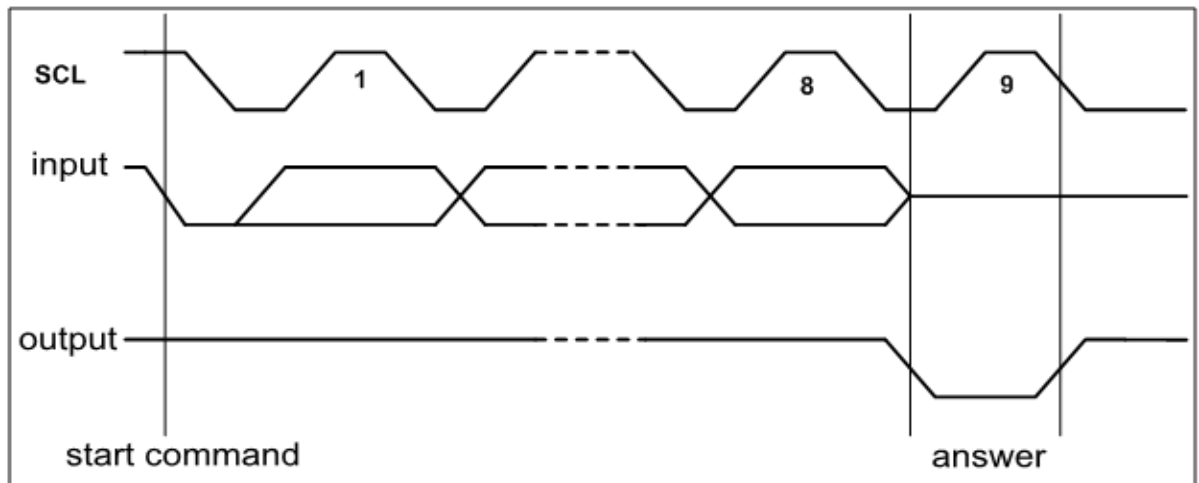

Figure 21-5 ACK
**Output response:** The data on the SDA is serially input and output in a set of 8 bits. The MSB is sent first. After receiving each byte, the receiver should send back an acknowledgement bit in the 9th cycle (below Referred to as ack), the ack clock is provided by the host. The sender suspends SDA during the ack period, and the receiver must pull SDA low to ensure that SDA is low during the high level of the ack clock to form a valid ack signal (see Figure 21-5)